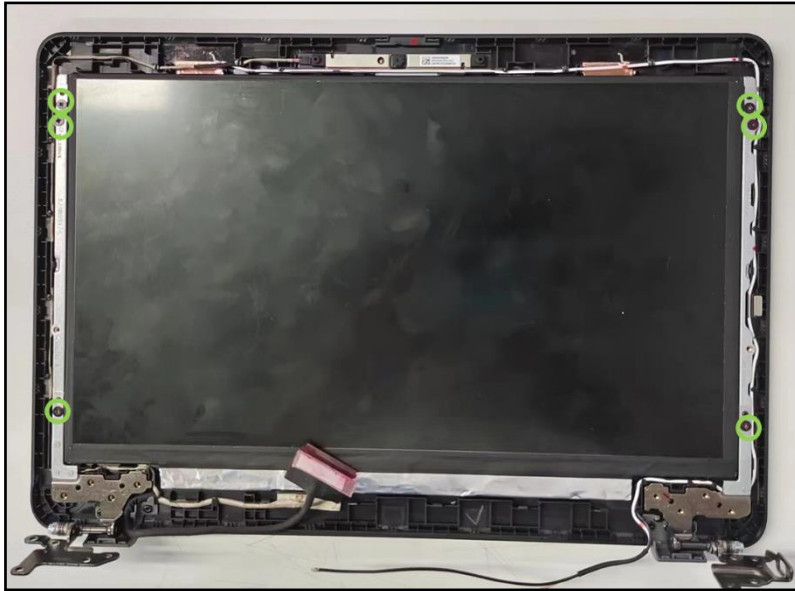

Figure 3-50. LCD Hinges Removal
3. Remove six (6) screws securing the LCD hinge to the LCD panel (Figure 3-50).